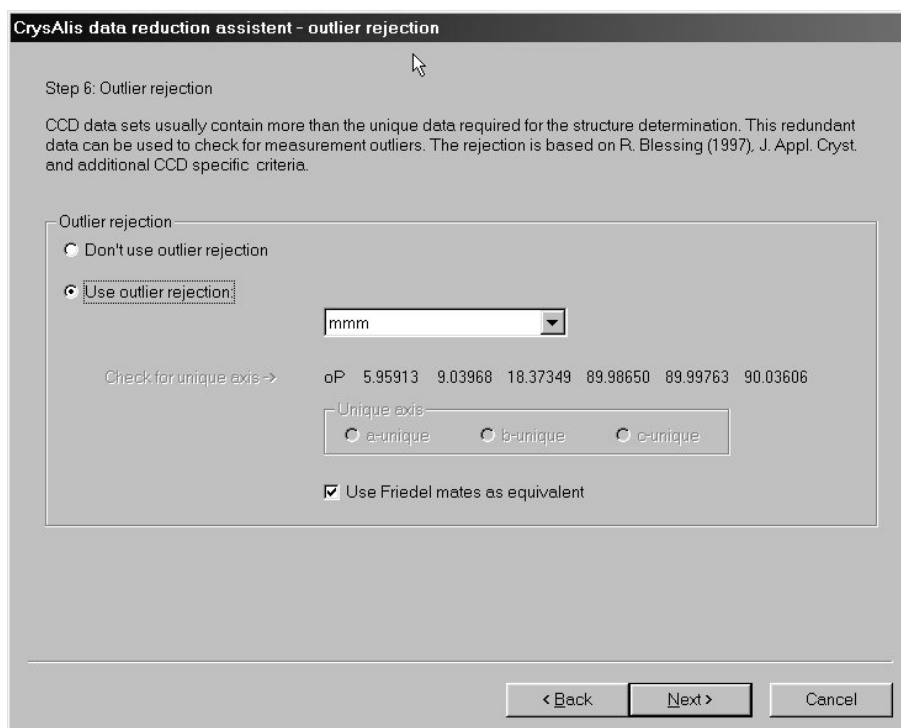

Figure 6.5.18 Screenshot of CrysAlis data reduction screen (outlier rejection)
2. A window such as figure 6.5.18 will be opened. This window allows the user to do the last stages of data reduction, applying Lattice extinction, absorption correction, 2 theta limits etc. The window also allows the user to output data in an alternative format and / or with direction cosines.